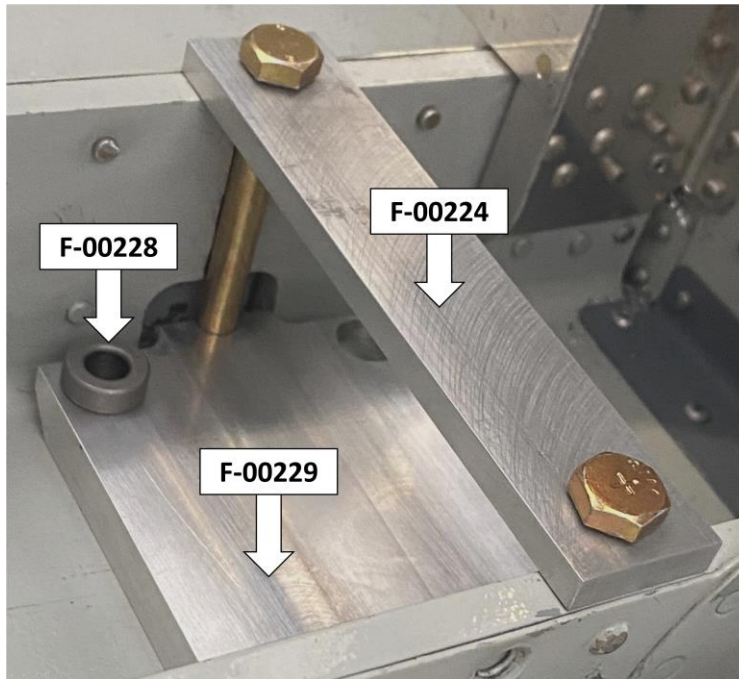

FIGURE 8: INSERTION OF F-00228 DRILL BUSHING, F-00229 DRILL GUIDE, AN5-50A BOLTS, AND F-00224 REINFORCEMENT PLATE
Step 33: Place the F-00229 Drill Guide on the bottom of the F-1204E Landing Gear Beam between the two “mouseholes” on the left side of the airplane. The two small partial holes along the edges should line up with the newly-drilled vertical channels. The chamfered edges of the F-00229 should face downwards. Refer to Figure 8.
Step 34: Slide two AN5-50A bolts through the holes of an F-00224 Reinforcement Plate. Slide the bolts down the vertical channels on the left side of the F-1204E Landing Gear Beam and into the holes on the bottom of the F-1204E Landing Gear Beam. Refer to Figure 8.
Step 35: Insert the F-00228 Drill Bushing into one of the half-inch holes on the aft side of the F-00229. Refer to Figure 8.